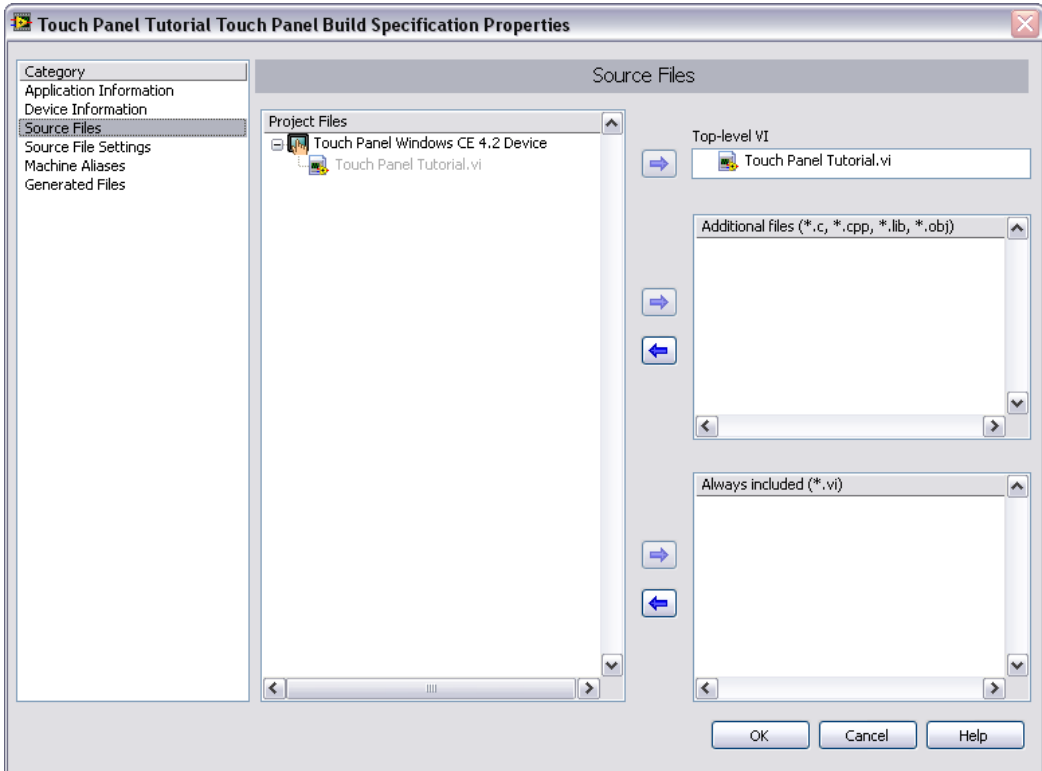

Figure 6. Selecting the Source Files
4. Select the **Source Files** category to select the source files to include when you build the Touch Panel VI into an application. When you use the Touch Panel Project Wizard to create a build specification, LabVIEW automatically uses the VI you import as the top-level VI. When you create build specifications outside of the wizard, you must manually select the top-level VI and click the blue arrow button to move the VI to the **Top-level VI** text box, as shown in Figure 6. Touch Panel applications can have only one top-level VI.